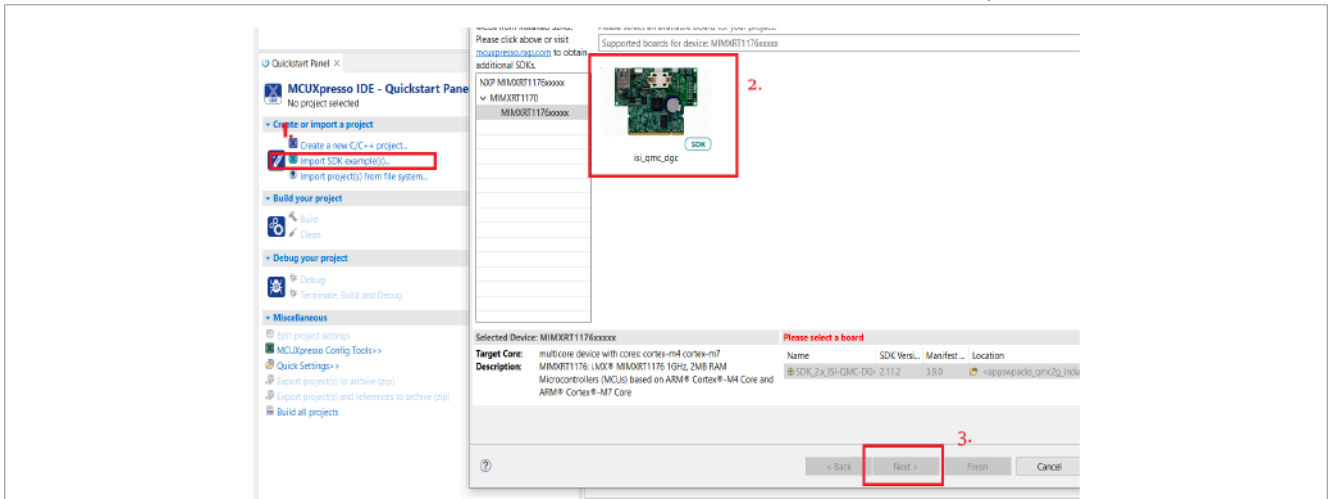

Figure 40. Import SDK example board selection
5. Select the i.MX RT Industrial Drive Development Platform demo projects to import, as shown in Figure 40: